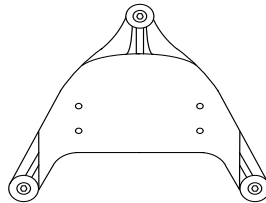
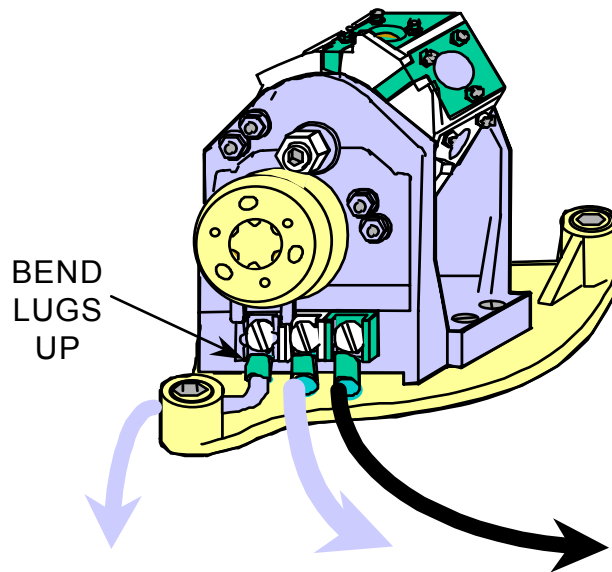

Figure 3-30
Figure 3-31
- (9) Looking down into the beacon, remove the three capscrews securing the lampchanger plate (Figure 3-30) to the flasher housing. Remove the lampchanger plate.
- (10) If not using a flasher, make up three wires, one black, one white and one blue each two feet long with lugs attached to **ONE** end and attach to the lampchanger. The wires should be 12 AWG with PVC or Teflon insulation. After securing the lugs, bend the lugs out 90 degrees from the terminals
- (11) Orient the lampchanger on the Lampchanger Plate so that the terminal strip faces away from the opening in the plate (The lampchanger may be installed with the terminal strip over the opening when no flasher is used).
- (12) Secure the lampchanger to the plate using 10-32 machine screws and nuts, as shown in Figure 3-31. Go to paragraph (16).